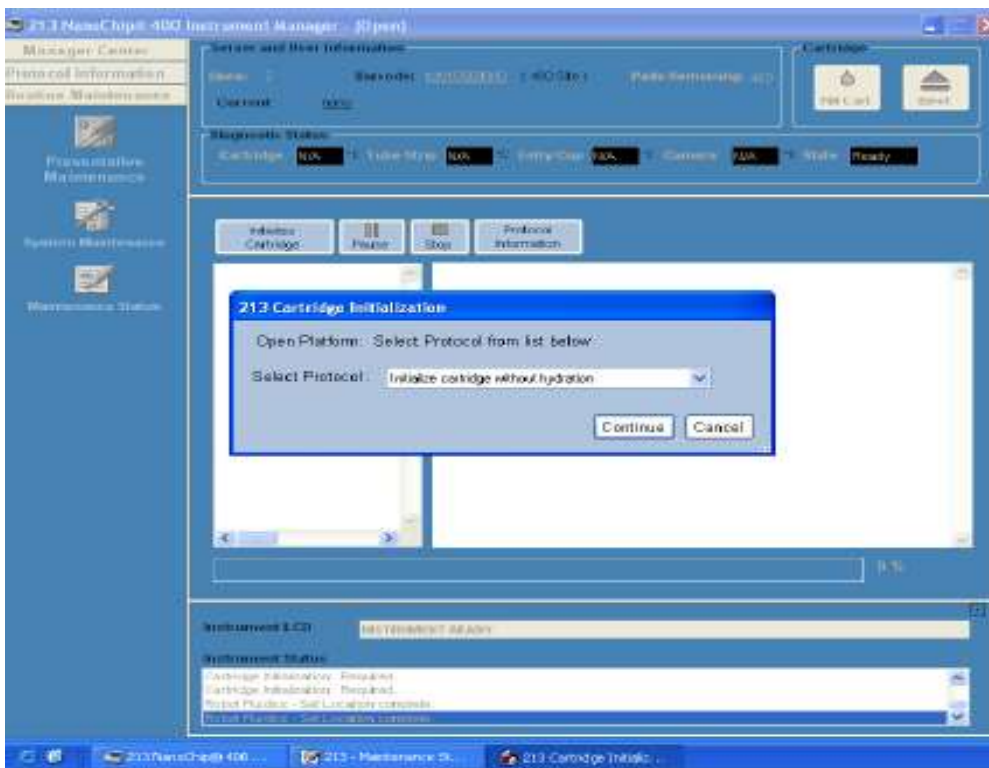

Figure 2: NC instrument Manager
- When the Cartridge Initialization window appears, select **Initialize Cartridge with Hydration** (see figure 2).